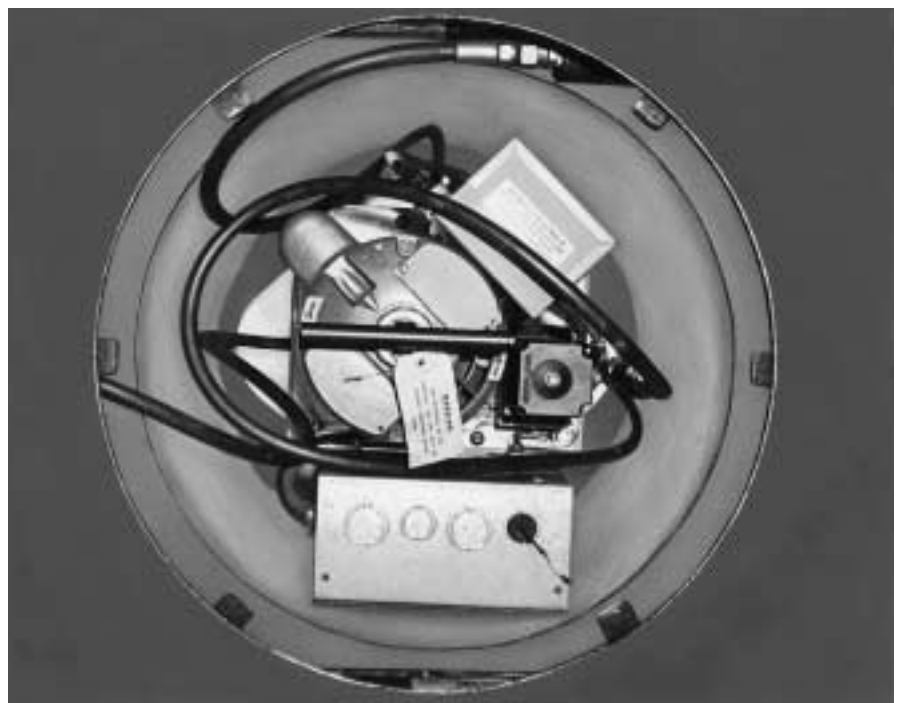

Figure 25
4. Position hydraulic lines similar to what is shown in Figure 25.